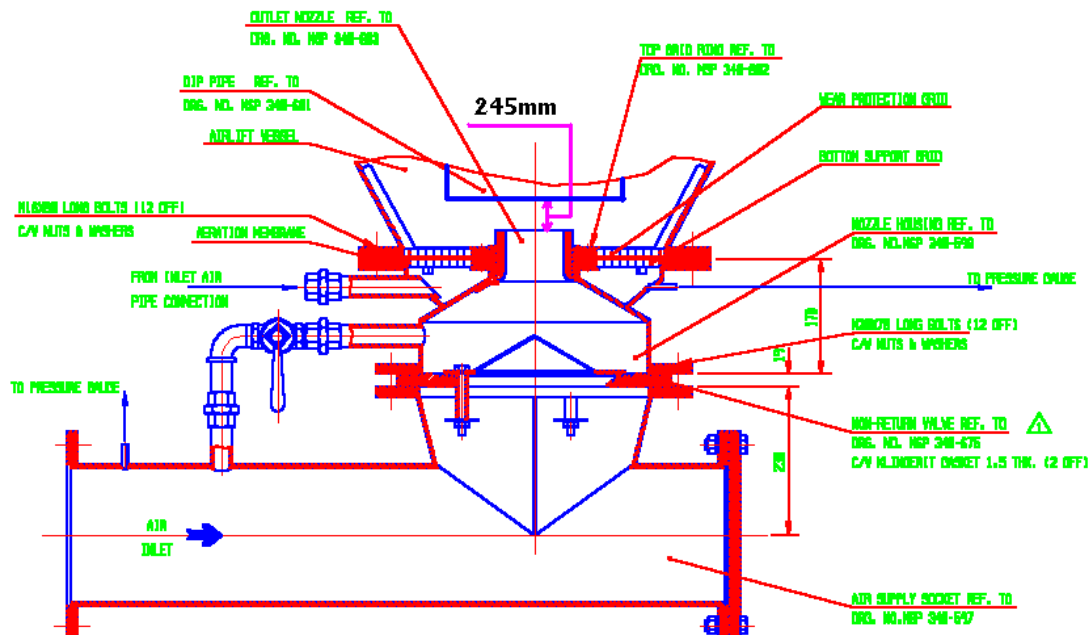

Figure 5: Detail of Airlift Vessel Inlet Nozzles and Dust Conveying Pipe
- If the Nozzle (05) is damaged, it is renewed
- If the Non-return valve (04) is damaged, it is renewed
- The *Contractor* in conjunction with the *Supervisor* inspects the nozzle dust conveying pipe gap. The *Contractor* rectifies this if necessary. Refer to Figure 5: Detail of Airlift Vessel Inlet Nozzles and Dust Conveying Pipe.